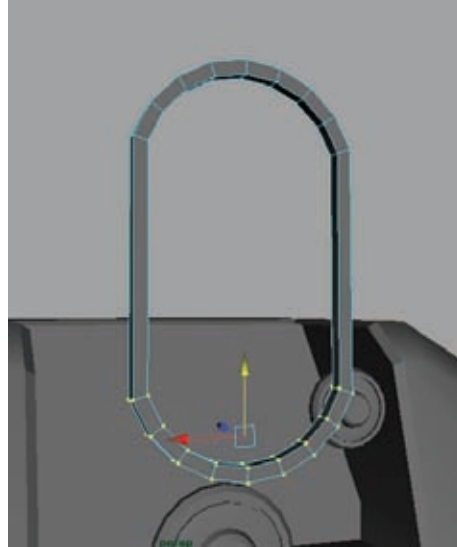

Figure 4.47
9. Grab the lower half of the vertices and lower them down, stretching the shape like in Figure 4.47.